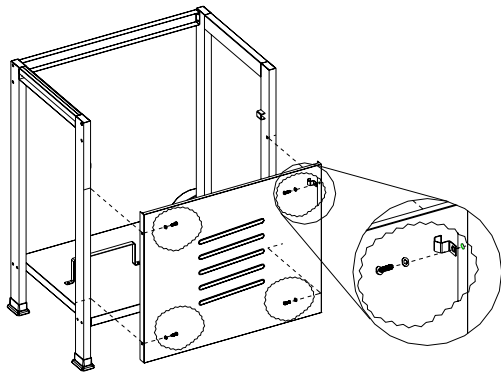

Figure 5
1. Assemble front panel to front cart leg by using (4) 1/4 x 3/5" screws with (4) 1/4" lock washers. (Fig.5)